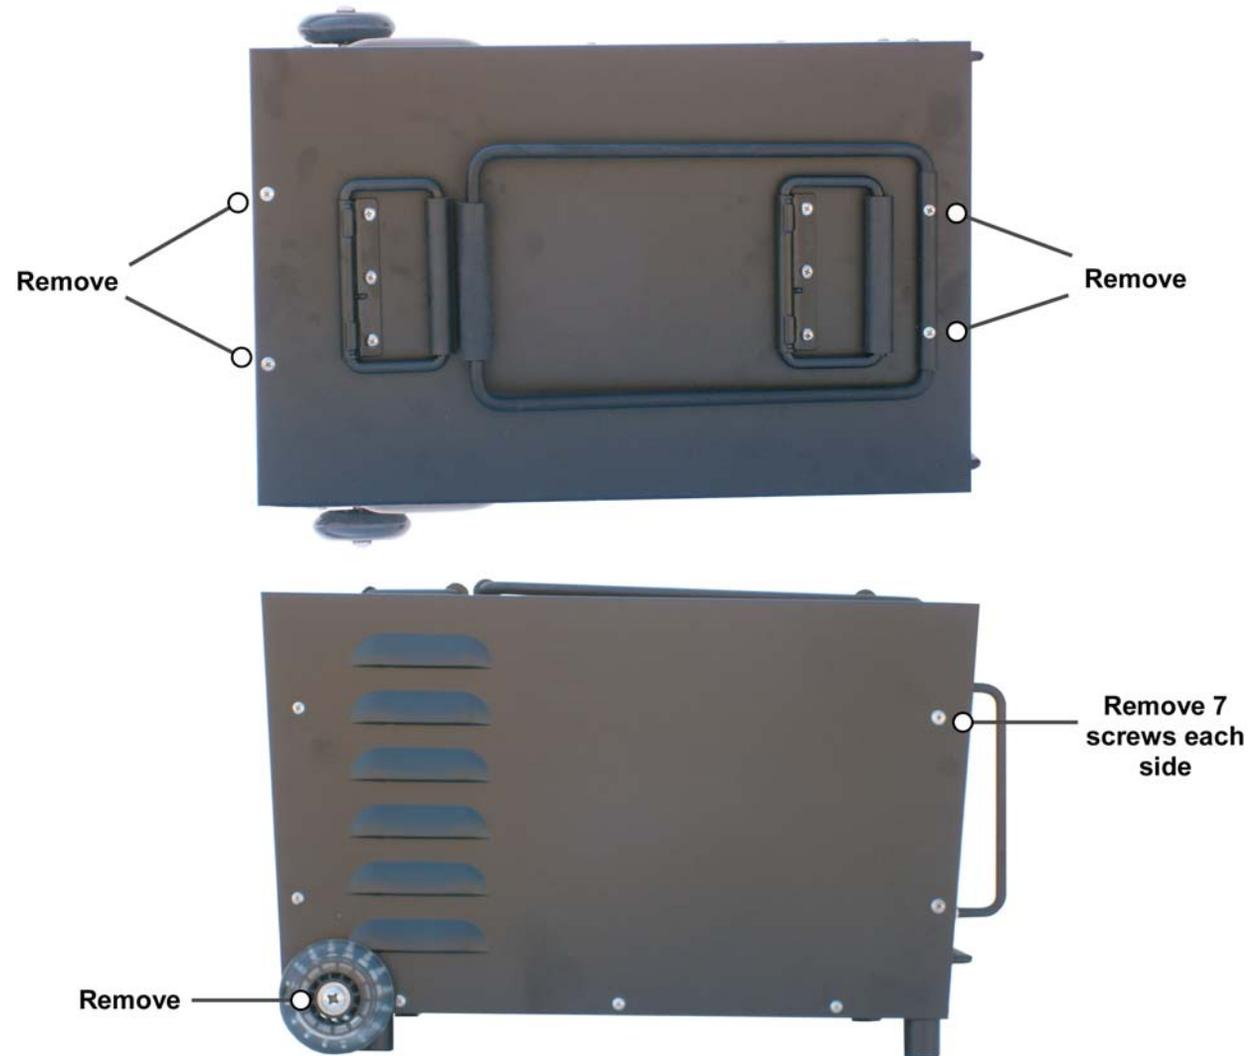

FIGURE 17.2.1.1. Top and Side Views of the Dynapulse System with detail for location and removal of Philip screws.
To change operating voltage, first be sure the Dynapulse™ System is unplugged. Remove the cover by removing the two wheels at the rear, seven (7) Philips screws from each side, and four (4) Philips screws from the top as indicated in **FIGURE 17.2.1.1** below.